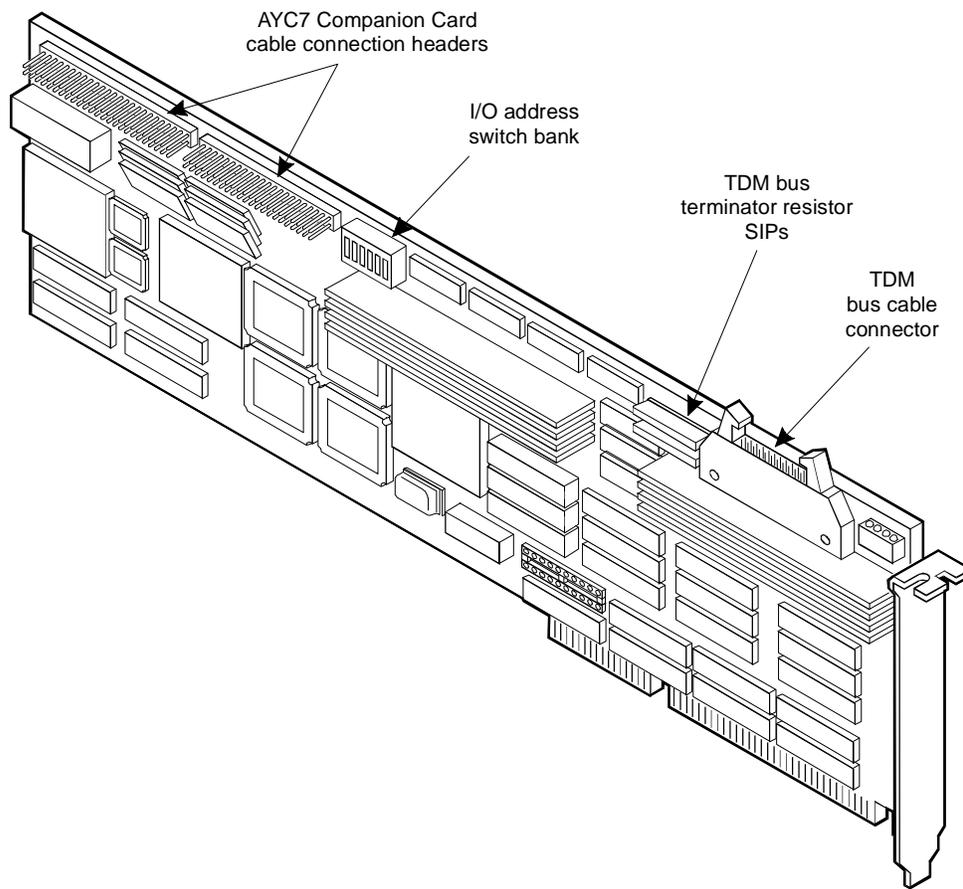

Figure 7-18. Signal Processor (AYC2C or AYC9) Circuit Card
- AYC2C and AYC9 — see Figure 7-18